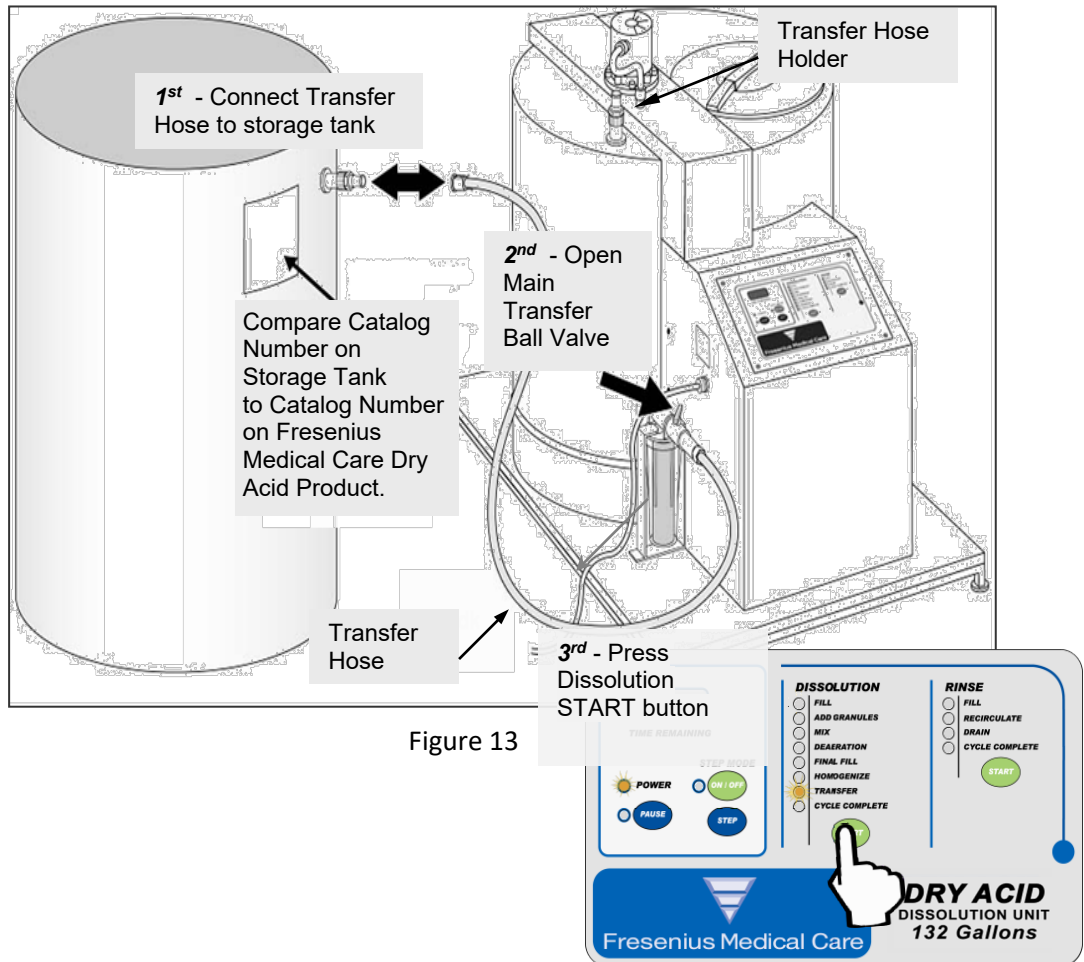

Figure 13
2. Connect Transfer Hose to the storage tank and OPEN the Main Transfer Ball Valve at the side of the Filter Housing. Press the Dissolution START button to transfer concentrate into the storage tank (Figure 13).